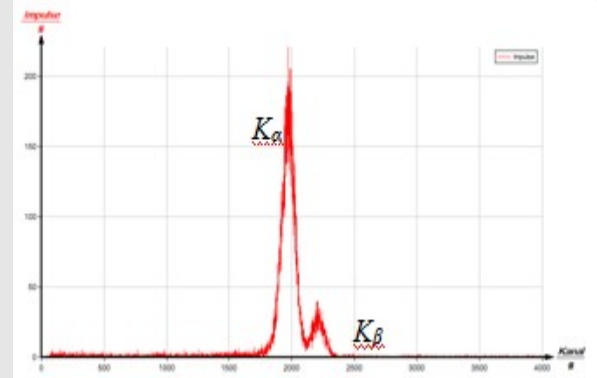

Fig. 7a: Fluorescence spectrum of zinc, gain level 2
- In order to determine the line position, switch from the bar display to the curve display. To do so, click "Display options" and then "Interpolation and straight lines". Figure 7a shows the result concerning the spectrum of the zinc sample.